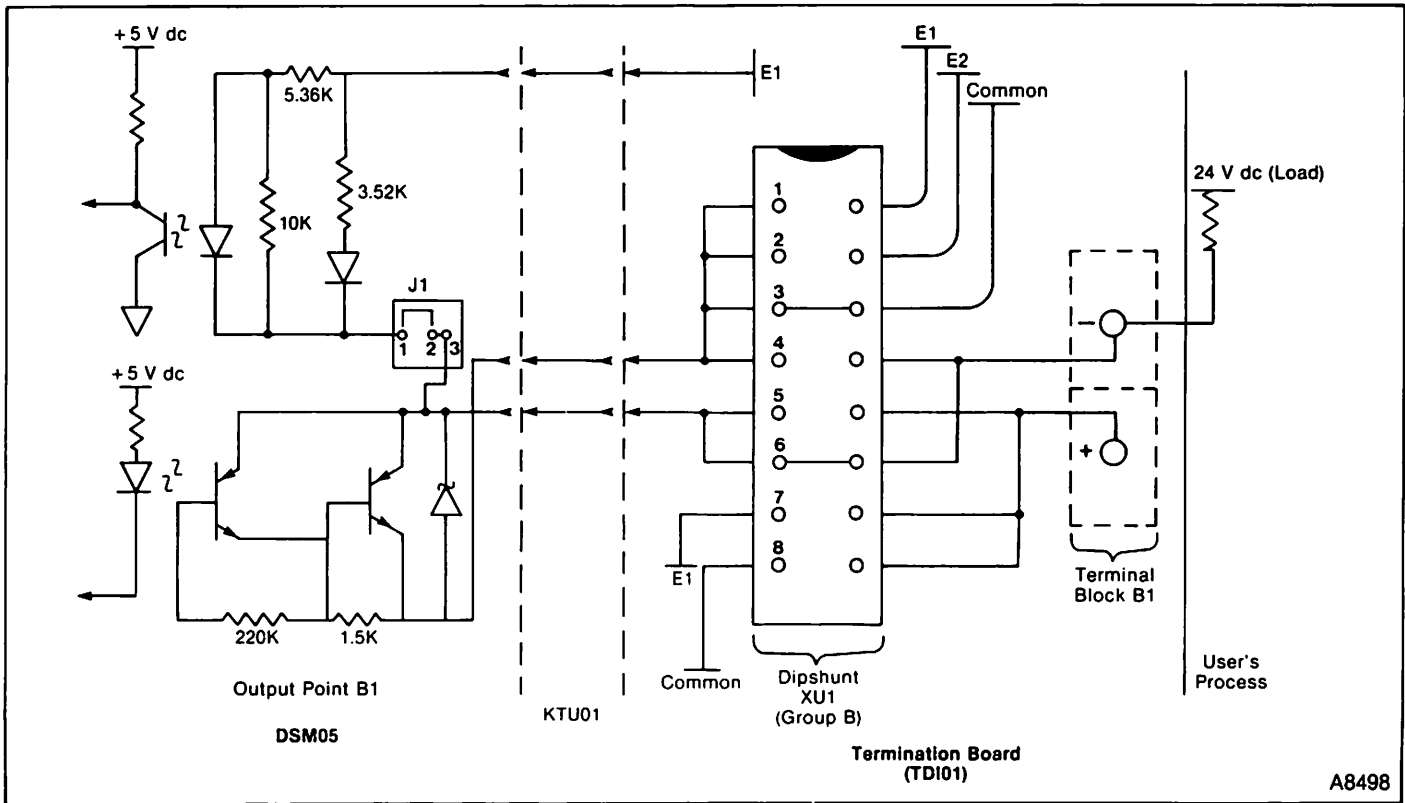

FIGURE 14 — Using the DSM05 to Sink an External Load.
**Example 2: Sinking an External Load.** Figure 14 shows an example of how the user sets up an I/O point so that the DSM05 can “sink” an external load. A transistor in the DSM05 circuitry again controls current flow. The transistor allows current to flow from the user’s process, through output point B1, across dipshunt XU1, and back across dipshunt XU1 to ground (common). Here, the user need attach only one wire from his process to the negative terminal of terminal block B1. He must also:
If he wants this output to be a “common” output, he must place jumper J1 across posts 1 and 2 (as shown in Figure 14). If he wants this output to be an isolated output, he must place jumper J1 across posts 2 and 3.